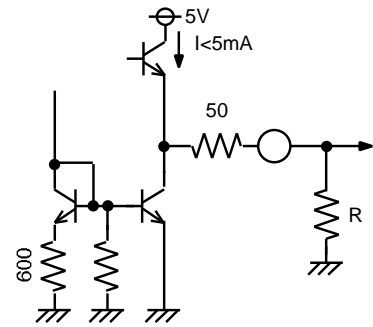

Fig.1
4. The terminal of R,G,B output pin are shown as Fig.1.